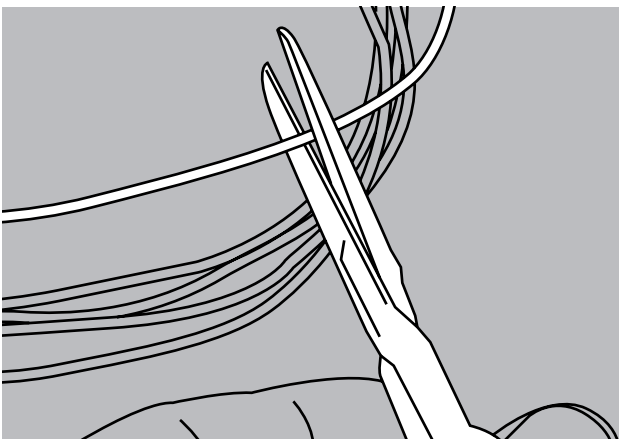

FIGURE 2
2. Identify which is the CO/Exchange (feed) side providing the service and cut the loose tube and fibres at the midway point, approximately 2 m (78") from the End Plate or as per company practice. (Figure 2)